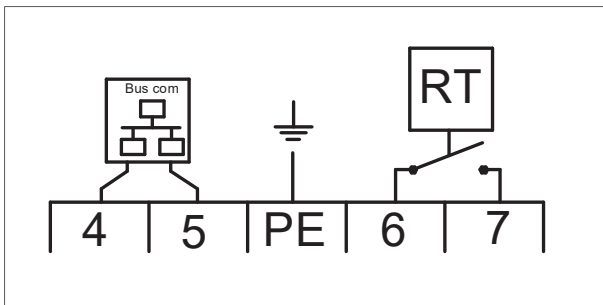

Figure 4 - Bus communication connection
1. Connect the two control wires to terminals 4 and 5 (see figure 4 or the electrical wiring diagram in §11.).